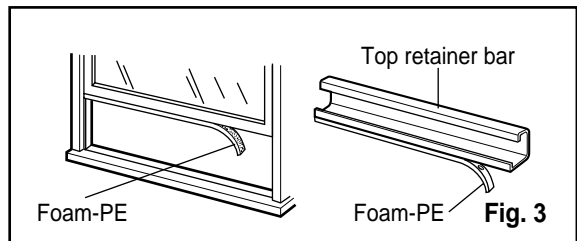

Fig. 3
2. Install the drain pan over the corner of the cabinet where you removed the plug with 4 screws. (See Fig.3)
3. Connect the drain hose to the outlet located at the bottom of the drain pan. You can purchase the drain hose or tubing locally to satisfy your particular needs. (Drain hose is not supplied). (See Fig.3)
4. Select the most appropriate connection from among the figures to the right (by considering the hole of the unit) to fit drain pan to your own unit. (See Fig.3)
3. Cut the window sash seal to the proper length. Peel off the backing and attach the Foam-PE to the underside of the window sash.(See Fig.3)
4. Remove the backing from Foam-PE with 3 holes and attach it to the bottom of the Top retainer bar.(See Fig.3)